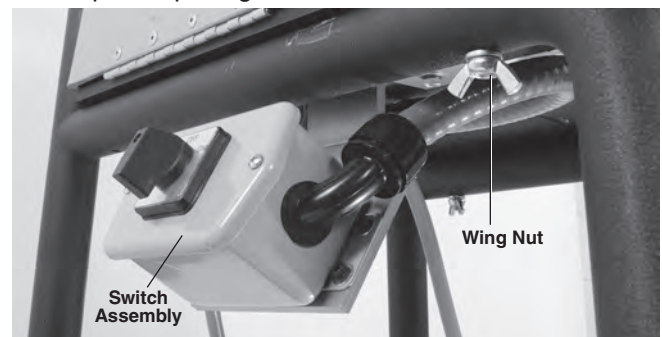

Figure 5 – Mounting Roll Groover to Stand
4. Mount the roll groover/base assembly to the stand using four (4)  $\frac{3}{8}$ " – 16 x 2½" hex screws, washers and wing nuts (Figure 5). Carefully place the switch assembly under the stand rail. Movement of the stand legs may be required to align the base assembly.